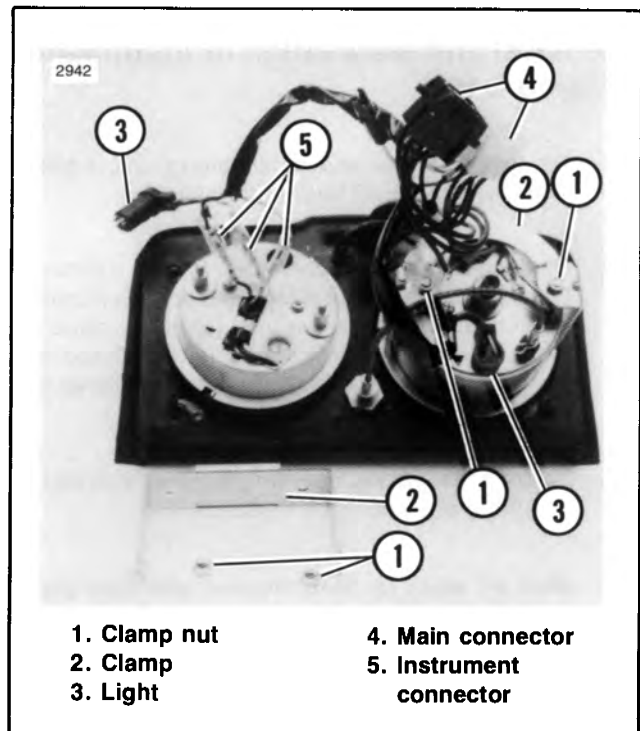

Figure 2-111. Instrument Panel — FXRD, FXRT
FXRD and FXRT — 1986 and Later (Figure 2-111)
3. See Figure 2-111. Disconnect the two main connectors (4). Remove instrument panel.
4. Remove clamp nuts (1) and clamp (2). Pull light bulb and socket from instrument housing. Replace bulb if burnt out.